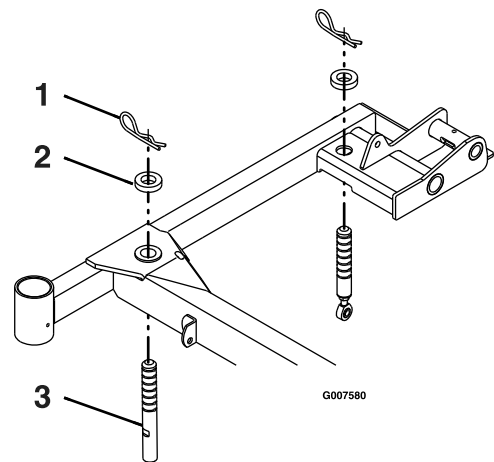

Figure 60
3. Verify that all hairpin cotters are in the 7.62 cm (3 inch) mower-deck-height holes with the spacers under the hairpin cotters (Figure 60).
4. Shorten or lengthen each mower deck support pin to obtain blade tip height of 7.62 cm (3 inches) at the front of the deck and 8.26 cm (3 1/4 inches) at the rear of the deck (Figure 60).